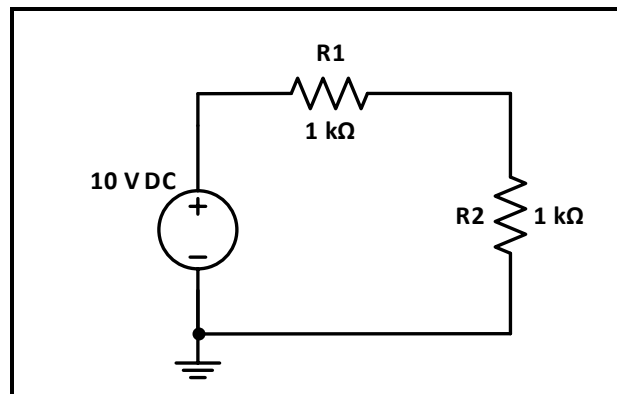

Figure 1.14
2. Connect the circuit shown in figure 1.14, set the input power supply to 10V, measure the voltage across each resistor, record and discuss results.
2. For the same circuit of figure.1.14 measure the current through each resistor, record and discuss results.